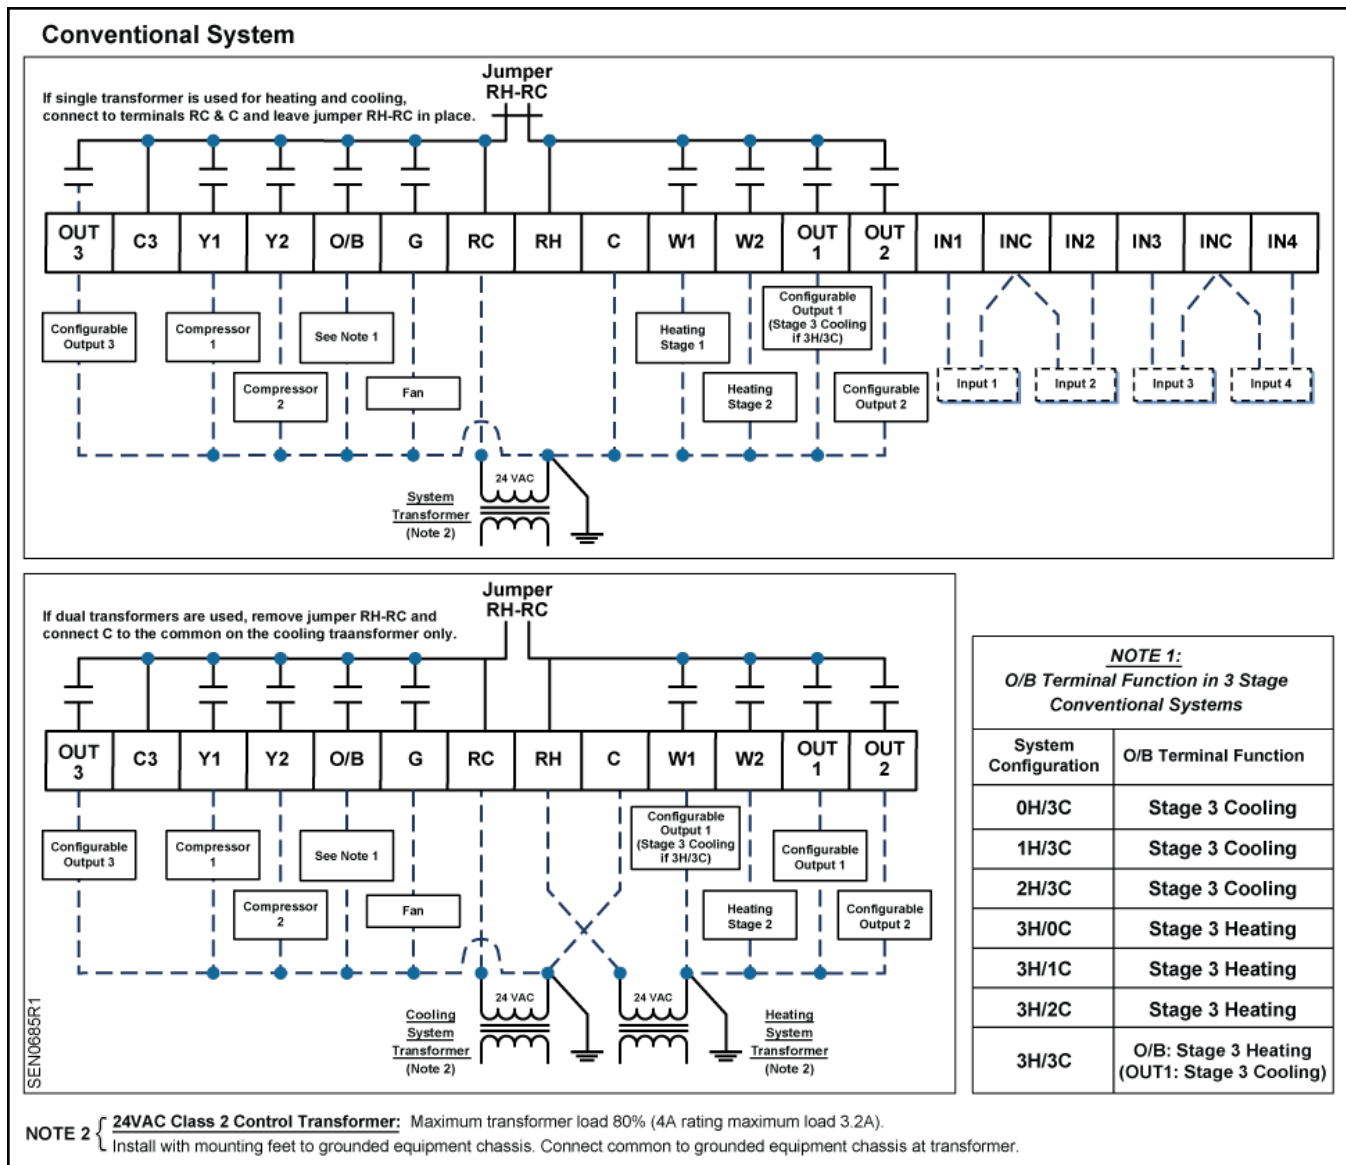
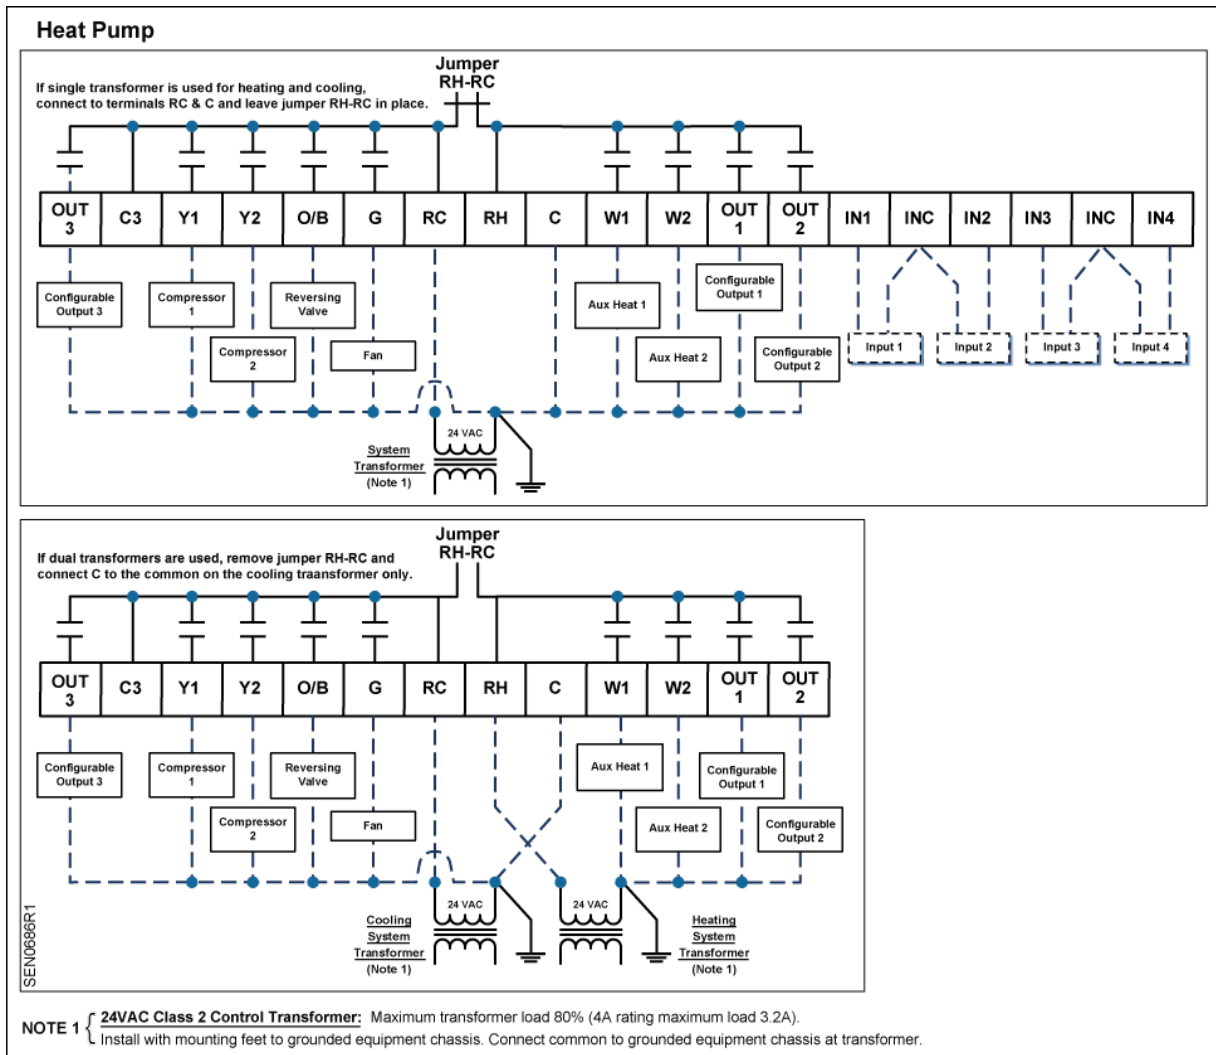

Figure 4. Wiring Schematic, Conventional System.
Figure 5. Wiring Schematic, Heat Pump.
3. Attach the existing wires to the appropriate terminals on the thermostat base plate. See *Wiring Diagrams*, Figure 4 and Figure 5.